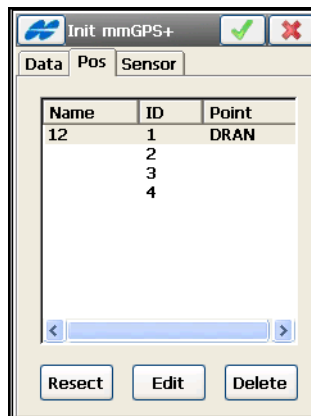

Figure 8-43. Initialize mmGPS – Position Tab
- The ok  button – returns to the *Init mmGPS+* screen (Figure 8-43 on page 8-41) showing the calibration data.
The *Position* tab (Figure 8-43) sets up the transmitter's height and location at the jobsite.